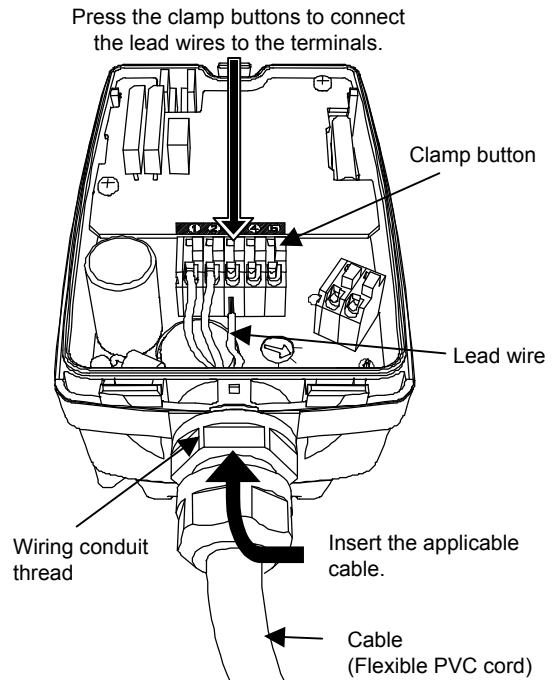

Figure 5. Lead wire connection
- 2) Let the lead wires go through the wiring conduit. (See Fig. 5) Connect the lead wires to the corresponding terminals while pushing clamp buttons.